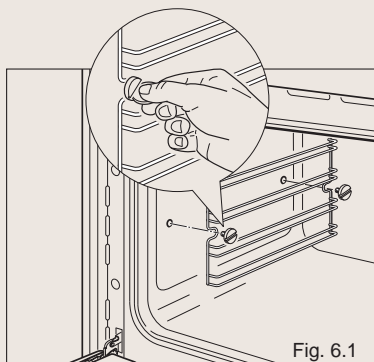

Fig. 6.1
- * Assemble the wire racks to the oven walls using the 2 screws (fig. 6.1).
- * Screw the side racks onto the oven wall (fig. 6.1).